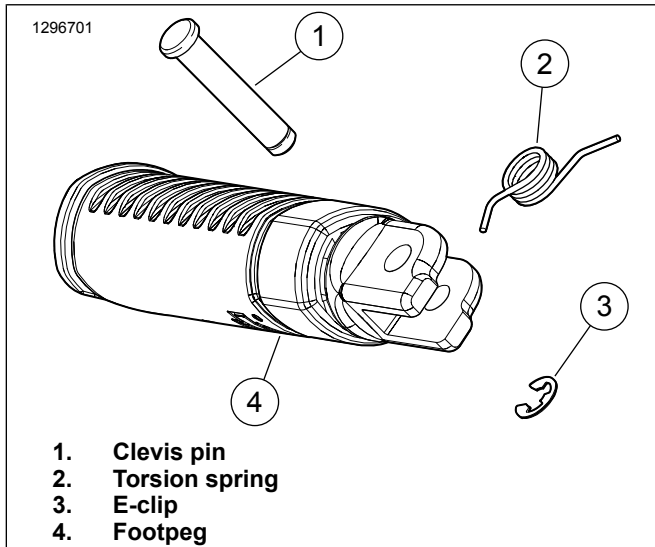

Figure 7. Rider Footpeg (Typical)
1. See Figure 7. Remove footpeg from foot support bracket. Retain footpeg, E-clip, clevis pin, and torsion spring for later use.